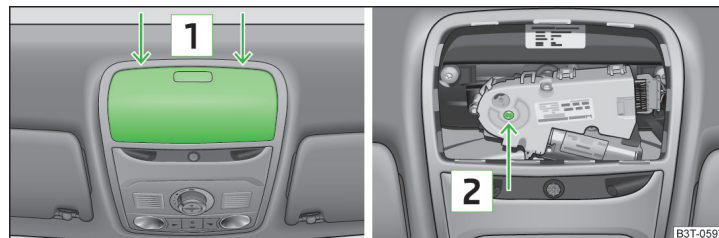

Fig. 193 Point for positioning screwdriver/opening for positioning the key
- Carefully insert an approximately 5 mm wide screwdriver into the slot in the positions shown by the arrows [1] » Fig. 193.